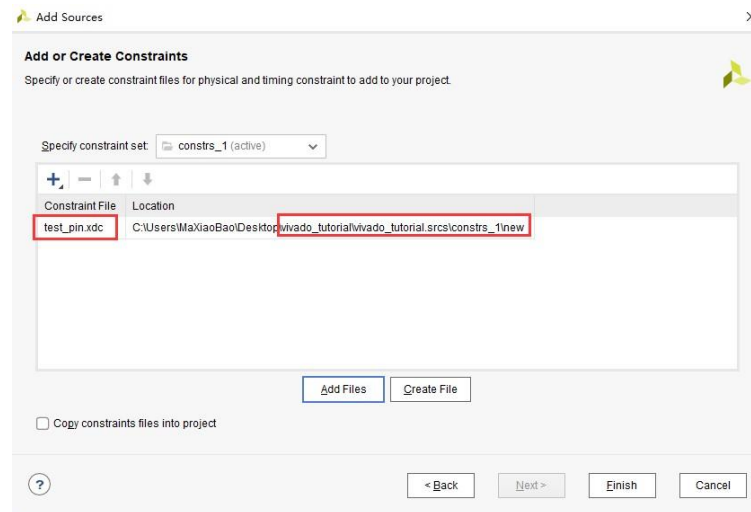

Figure 5.
4. Click **Add Files** and add your constraints file **test\_pin.xdc** ,as shown in figure 5